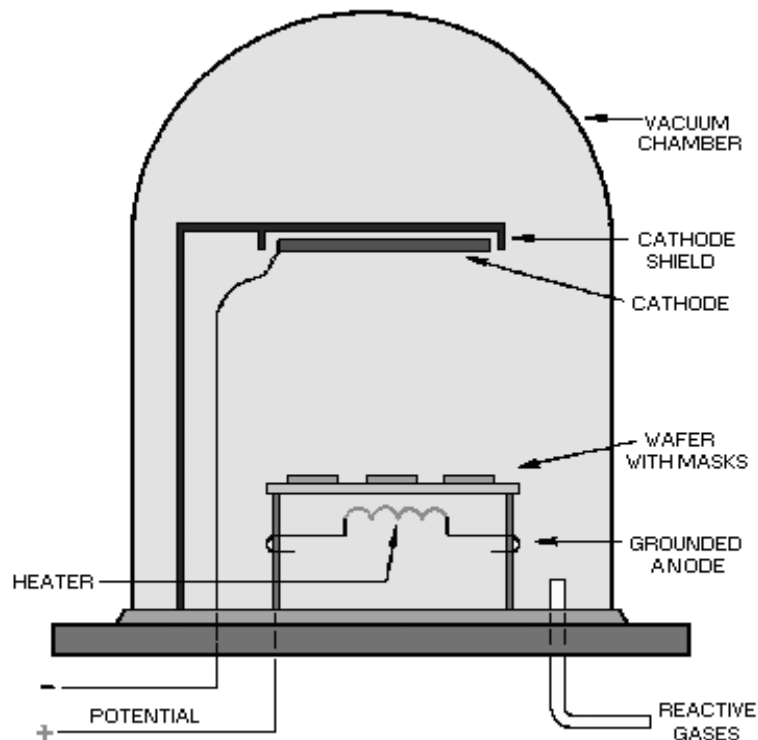
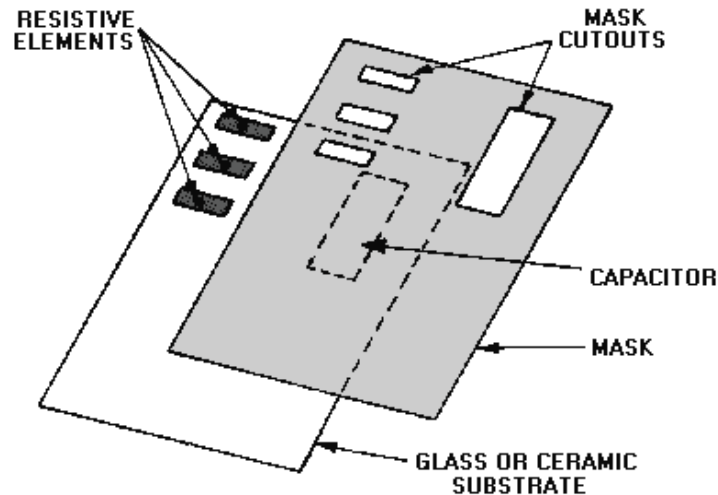

Figure 1-16.—Cathode-sputtering system.
Figure 1-17.—Cathode-sputtering mask.
**CATHODE-SPUTTERING.**—A typical cathode-sputtering system is illustrated in figure 1-16. This process is also performed in a vacuum. A potential of 2 to 5 kilovolts is applied between the anode and cathode (source material). This produces a GLOW DISCHARGE in the space between the electrodes. The rate at which atoms are SPUTTERED off the source material depends on the number of ions that strike it and the number of atoms ejected for each ion bombardment. The ejected atoms are deposited uniformly over all objects within the chamber. When the sputtering cycle is completed, the vacuum in the chamber is released and the wafers are removed. The masks are then removed from the wafers, leaving a deposit that forms the passive elements of the circuit, as shown in figure 1-17.